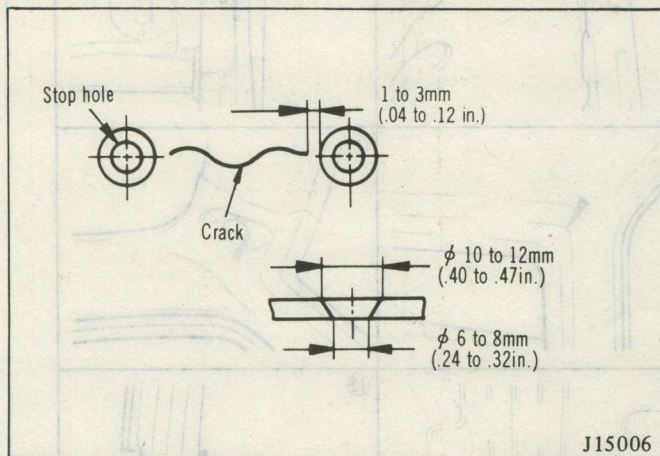

Fig. 3 Crack Repair Procedure (1)
(1) Drill a 6 to 8 mm (.24 to .32 in.) diameter stop hole at a point 1 to 3 mm (.04 to .12 in.) away from the end of the crack and chamfer the hole edge, using a 10 to 12 mm (.40 to .47 in.) diameter drill. (Fig. 3)